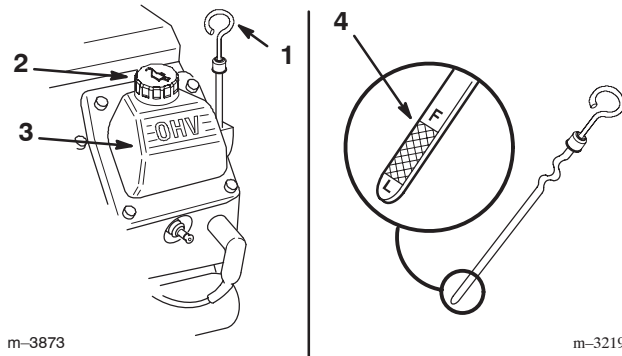

Figure 4
3. Clean around the oil dipstick (Fig. 4).
4. Pull out the dipstick and wipe the metal end clean (Fig. 4).
5. Slide the dipstick fully into the dipstick tube (Fig. 4).
7. If the oil level is low, clean around the oil filler cap and remove the cap (Fig. 4).